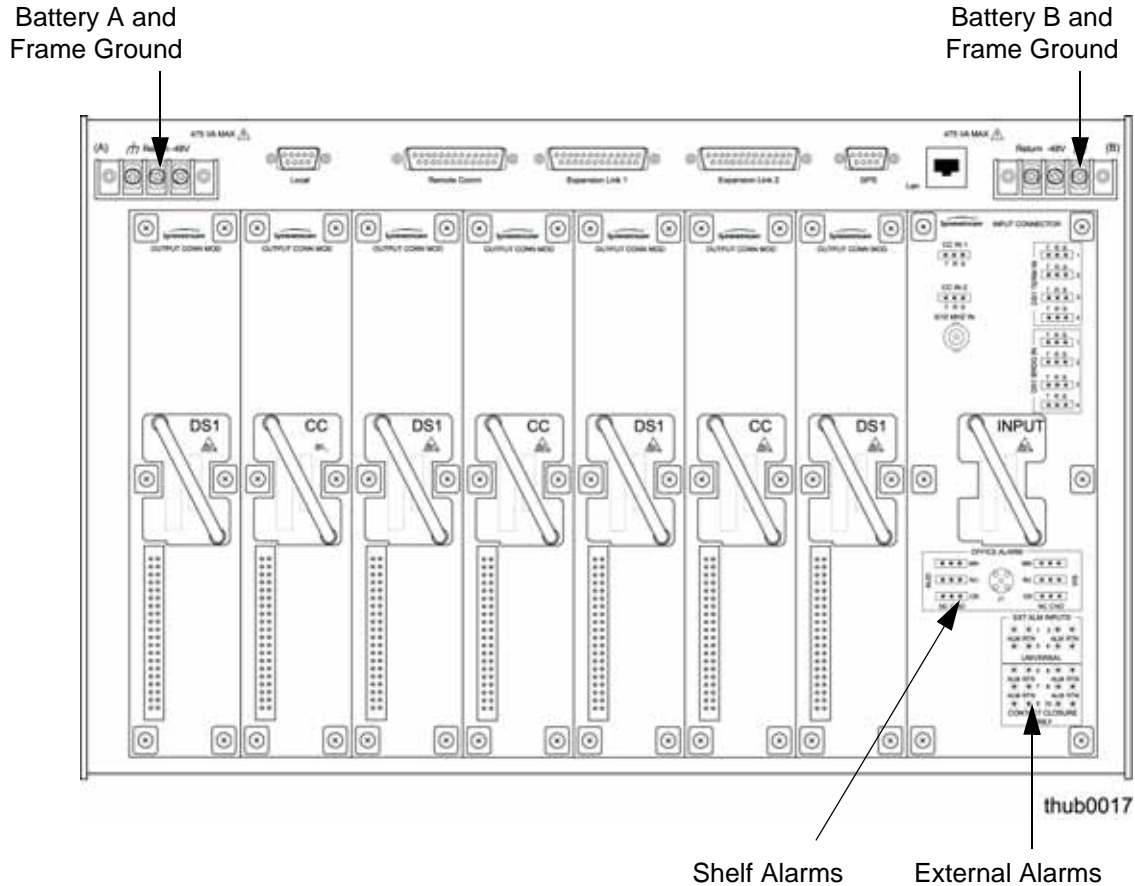
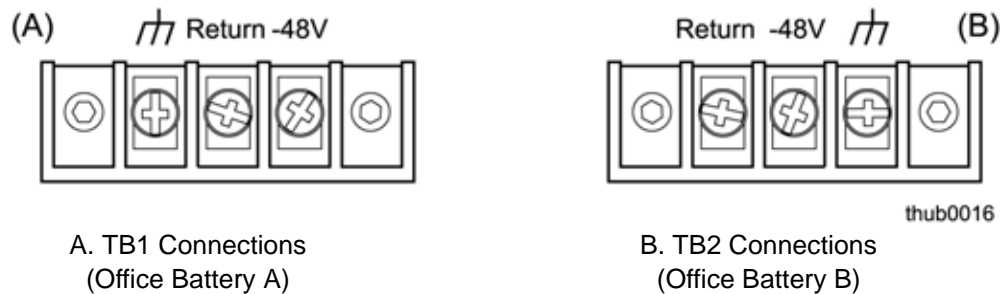

Figure 3-7. Connectors on the Rear Panel of the Master Shelf
Figure 3-9. Power and Ground Connections on the Master Shelf
The TimeHub 5500 has redundant -48VDC power input connections labeled A and B. Both are located in the upper-right and upper-left corners of the rear panel, as shown in Figure 3-7.
Frame ground connections are made on power terminal blocks TB1 and TB2 on the rear panel of the shelf. Figure 3-7 illustrates the terminal connections.
2. Crimp the supplied spade lug to one end of the 16 AWG wire and connect it to the ground terminals on TB1 and TB2 (Figure 3-7).
2. Locate the power terminal blocks on the rear panel (Figure 3-9).
To verify that the power connections to the TimeHub 5500 Main shelf are correct, follow the steps in this section. Use a digital multimeter (Fluke 77 or equivalent) to make the measurements. Refer to Figure 3-7, Figure 3-9, and Figure 3-18. Use this procedure for Master/Remote and Expansion shelves.
3. Disconnect the -48V battery A and battery B leads from the shelf power terminal blocks TB1 and TB2 (Figure 3-9 and Figure 3-18). (Leave the Return battery leads connected to the shelf.)